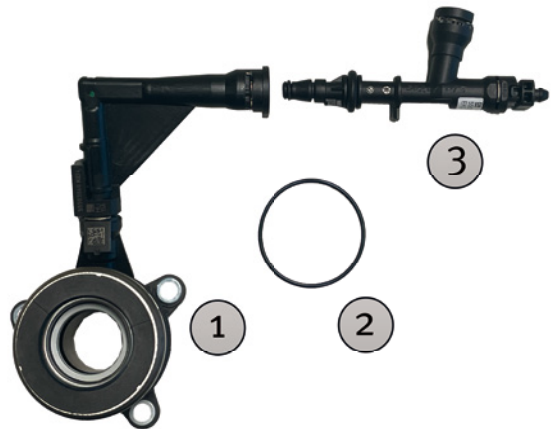

Figure 2: LuK CSC 510 0290 11
**Figure 2:** After replacing the sealing ring (2), first mount the new concentric slave cylinder (1) with finger tightness. Screw in the screws evenly so that the cylinder is not titled! Then insert the adapter (3) into the concentric slave cylinder through the opening in the gearbox housing. There will be an audible click when the adapter is correctly engaged. Tighten the three fixing bolts on the CSC to 10 (+1) Nm. After installing the gearbox, the connector of the vehicle's hydraulic line must be mounted on the open pipe end of the CSC adapter. It must engage with an audible click.